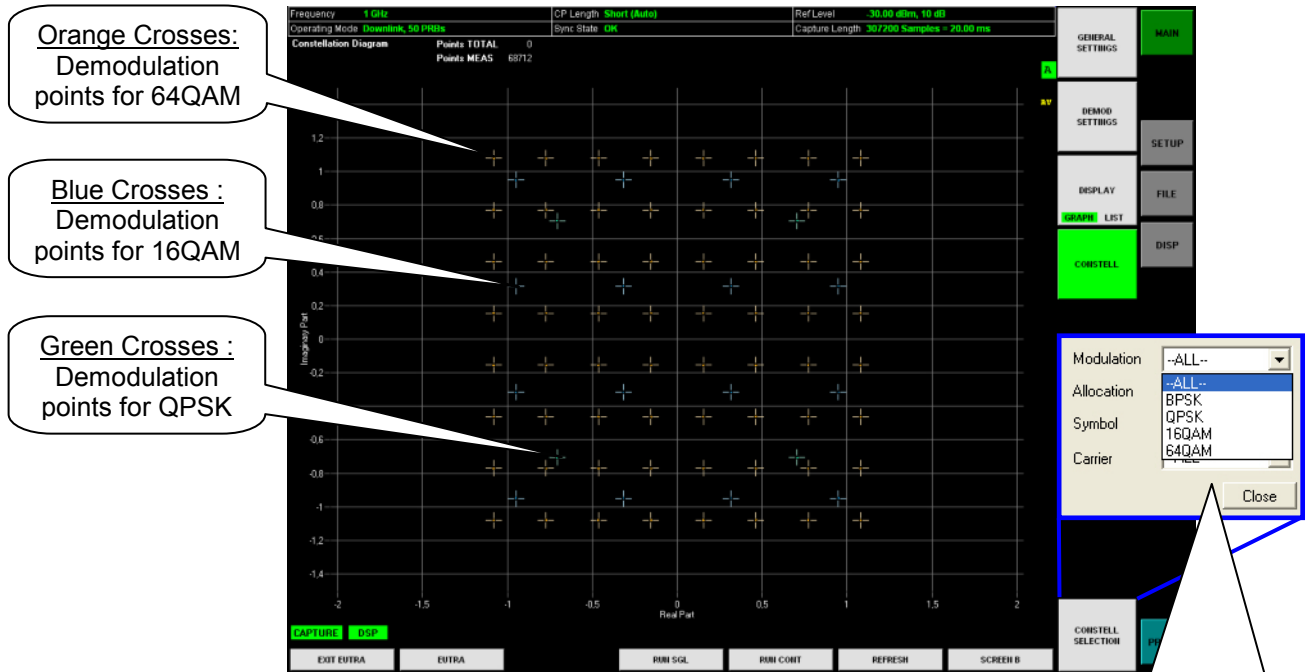

Figure 4-13 Analyzing EUTRA/LTE DL signals – Constellation Diagram
9. Constellation Diagram (Figure 4-13)